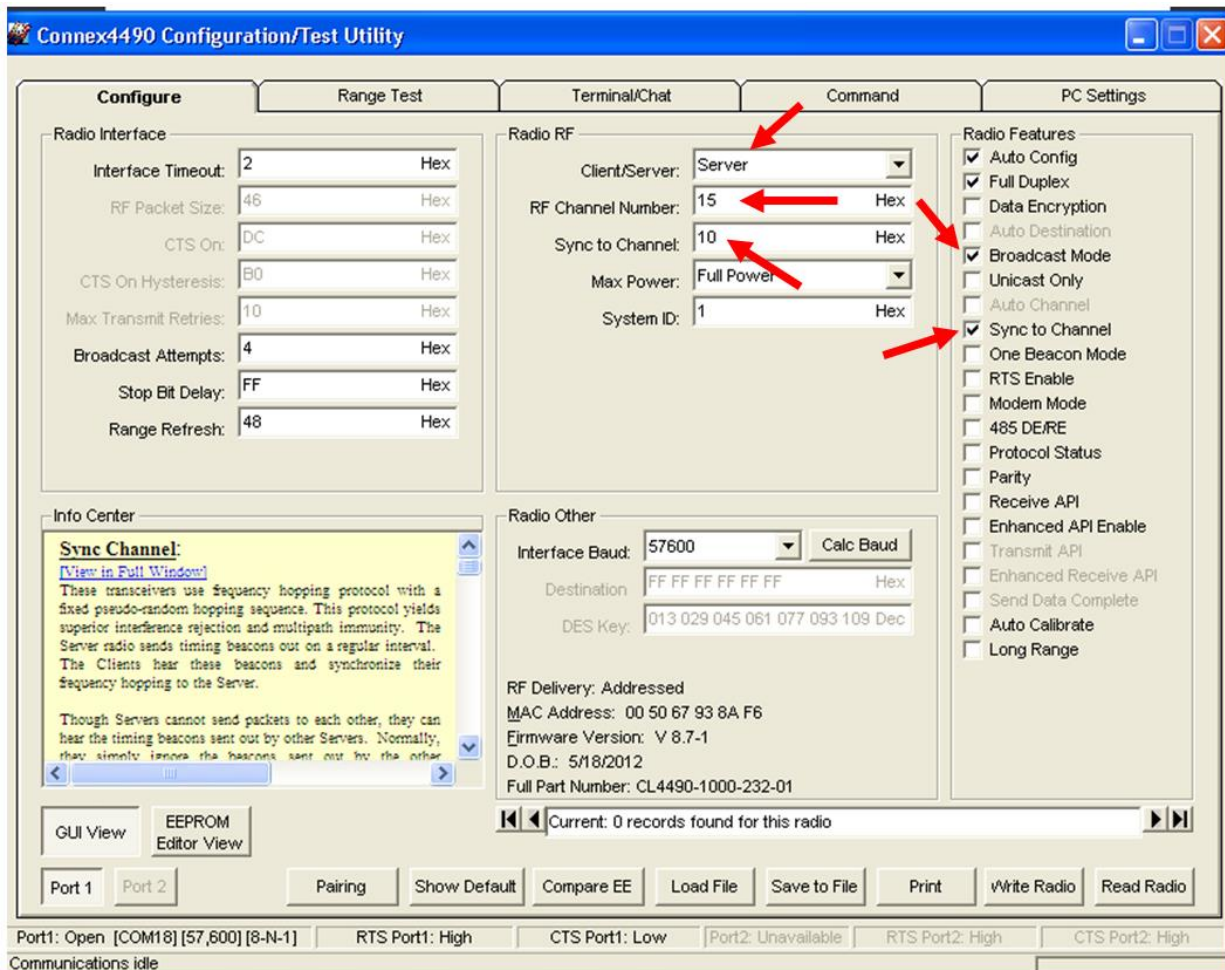

Figure 13: Server #2 settings
18. Configure server #2 as *Server* and *Broadcast Mode* with an RF Channel Number at least 4-5 steps above the RF Channel Number of the Hop Master. Under the *Radio Features* section, check the **Sync to Channel** box and in the *Radio RF* section, set the Sync to Channel to the RF channel of the Hop Master (Figure 13). Click **Write Radio** to write the changes to the radio's EEPROM.